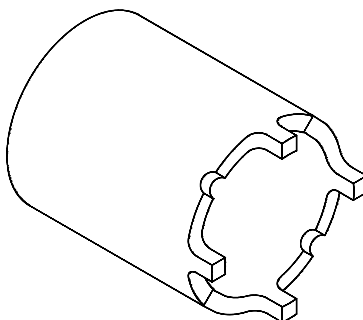

Figure 1. 4-Lug socket.
Jackstands	4-Lug Socket for Dana 44 (Fig 1)*
5. Using hub spindle nut socket (Figure 1) and torque wrench, torque nut to 50 ft-lb. Rotate wheel back and forth while tightening the nut. This helps seat the bearings.